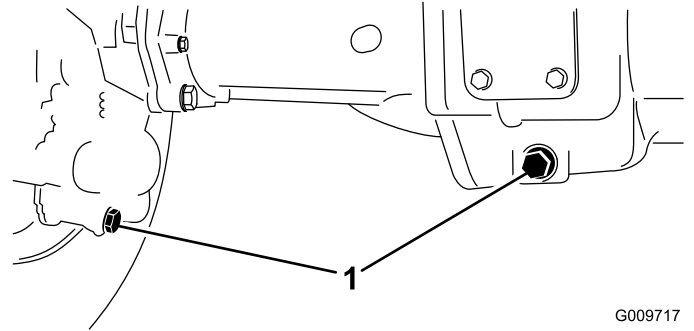

Figure 94
- Clean the area around the 3 drain plugs, 1 on each end and 1 in the center (Figure 94).